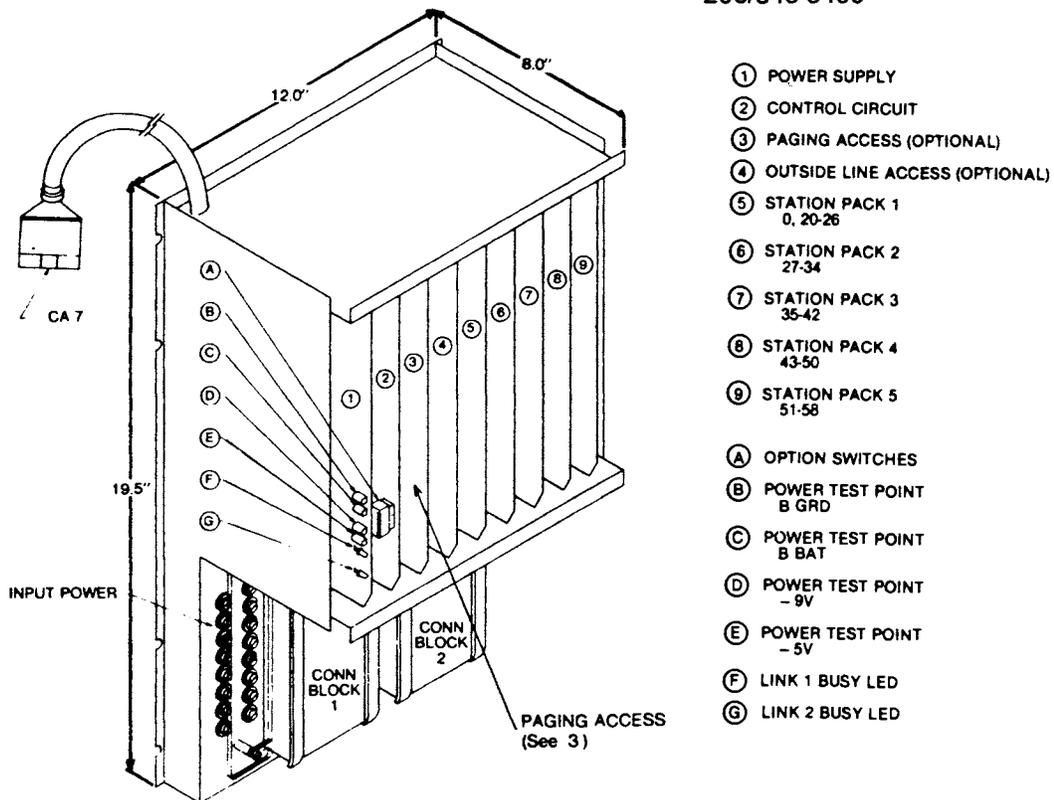

Figure 2—Front of KL-30 Showing Circuit Pack and Miscellaneous Component Locations.
- 3.02 Insert the Four Area Pager circuit pack into position 3 of the KL-30 (components to the left). See Figure 2.